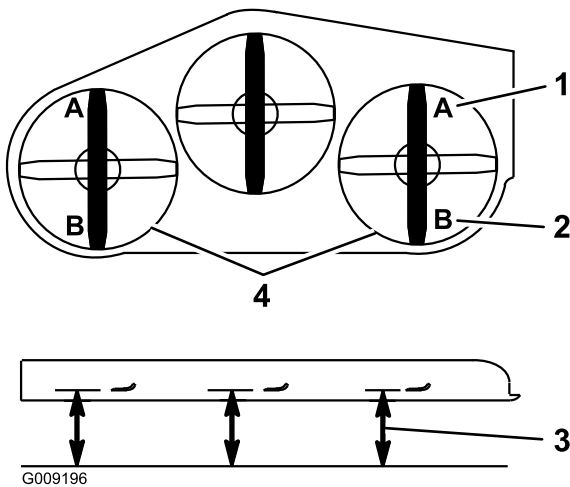

Figure 94
9. On both sides of the deck, measure from the level surface to the front tip of the blade (Position A) as shown in Figure 94.
16. On both sides of the deck, measure from the level surface to the back tip of the blade (position B) as shown in Figure 94.